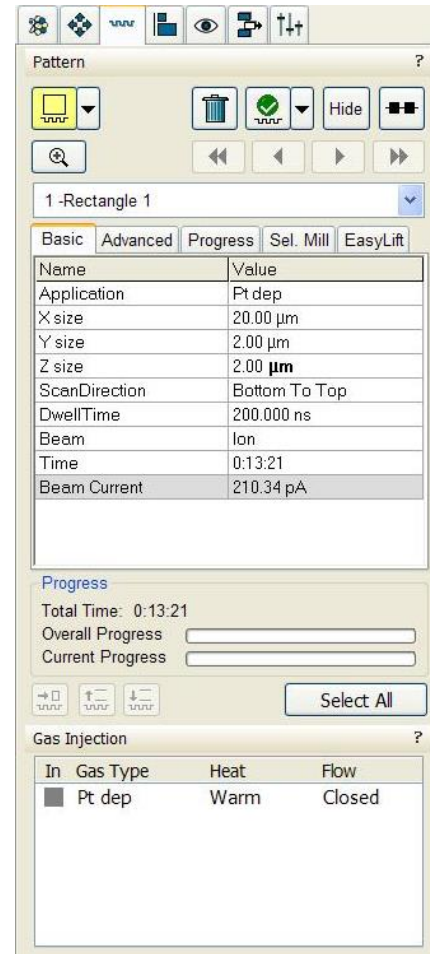

Figure 13
3. Draw rectangular pattern in Ebeam quadrant and choose **Pt e-dep surface in Pattern>Basic>Application** (Figure 13), pattern should be in green color, make sure the pattern is slightly wider than area of interest. Choose depth to be 0.1 um. Make sure the GIS is in **Warm** status (bottom panel in Figure 13).
2. Draw rectangular pattern in Ibeam quadrant and choose **Pt Dep** in **Pattern>Basic>Application** (Figure 13), pattern should be in green color, make sure the pattern is slightly smaller than the existing Pt layer. Choose the depth to be 0.5-2 μm .